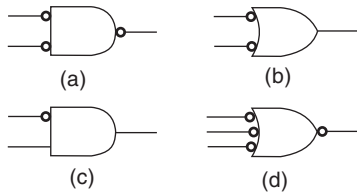

Fig. 5.23
5.46 Use the bubble-pushing technique to convert the gates in the Fig. 5.23.